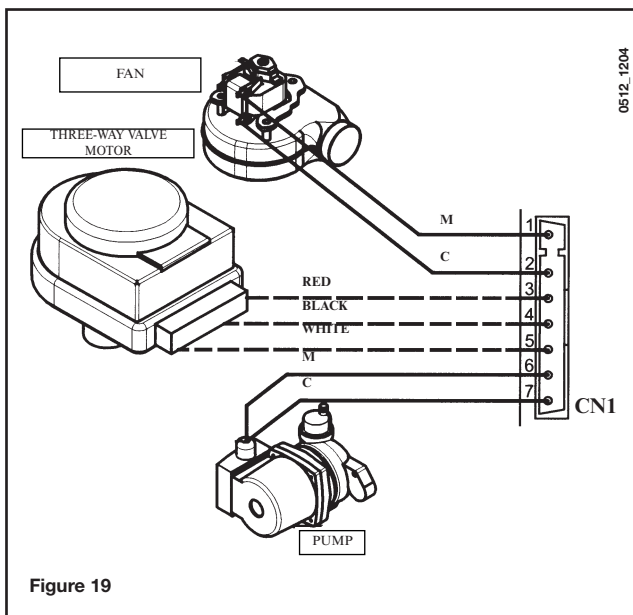

Figure 19
- 2) connect the 3-way valve motor wires (white-red-black) as shown in figure 19; **IMPORTANT:** check correct clamping of the wires on the connector CN1.
The remote control device is not a standard boiler component as it is supplied as an accessory. Open the electronic board and connect the cable (supplied together with the two-pin terminal board) to connector CN7 on the electronic boiler board. Connect the terminals of the remote control device to the two-pin terminal board (figure 19).